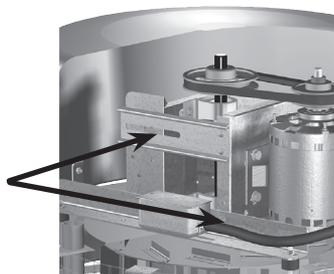

Figure 12
- 7. Belt tension can be adjusted by loosening four fasteners on the drive frame, see Figure 12. The motor plate slides on the slotted adjusting arms and drive frame angles in the same manner. Four (4) fasteners in total. Identical fasteners on opposing side must also be loosened.